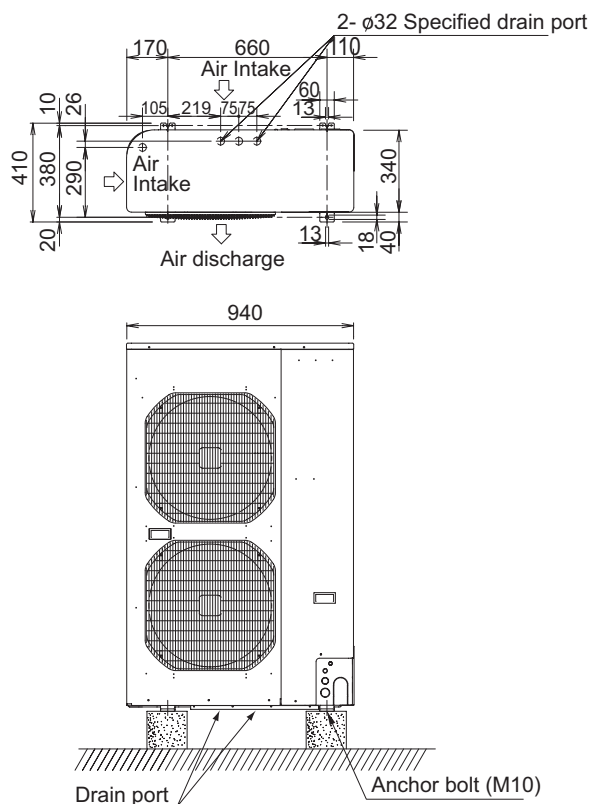

Fig. 1-17
- Refer to Fig. 1-17 for the anchor bolt dimensions.
- For the drain port dimensions, refer to Fig. 1-17.